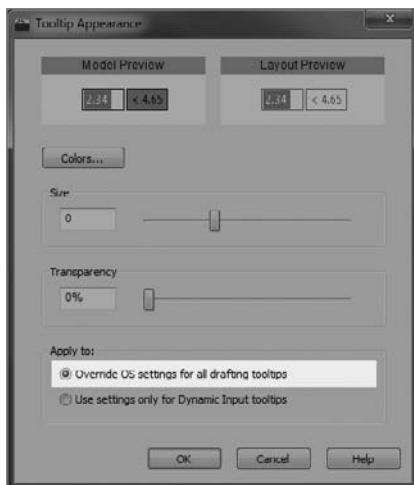

FIGURE 3.21 The Tooltip Appearance dialog box
5. Below the Dynamic Prompts area of the Drafting Settings dialog box, click the Drafting Tooltip Appearance button to open the Tooltip Appearance dialog box (see Figure 3.21).